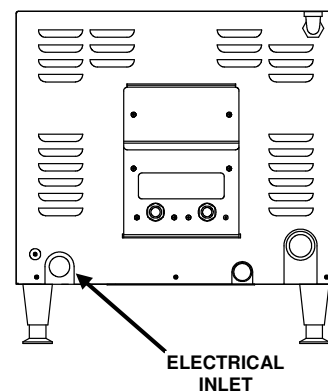

Figure 3-13
6. Mechanically secure the flexible conduit to the electrical access hole found at the rear of the appliance. See Figure 3-13.